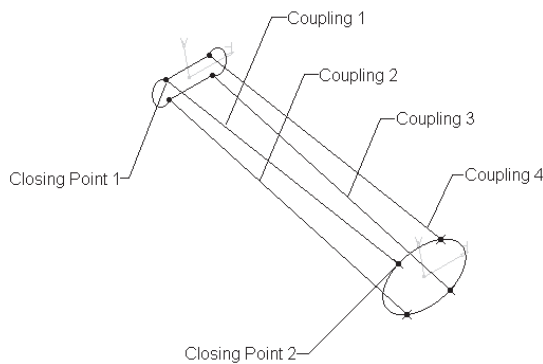

Figure 10-71 The couplings and closing points
11. Modify the closing points based on Figure 10-71.
14. Select the first coupling point on the first section, refer to Figure 10-71. The selected point is displayed in the **Coupling** dialog box.
15. Select the second coupling point on the second section, refer to Figure 10-71. The coupling created is displayed in the geometry area.
17. Create the second, third, and fourth couplings, refer to Figure 10-71.